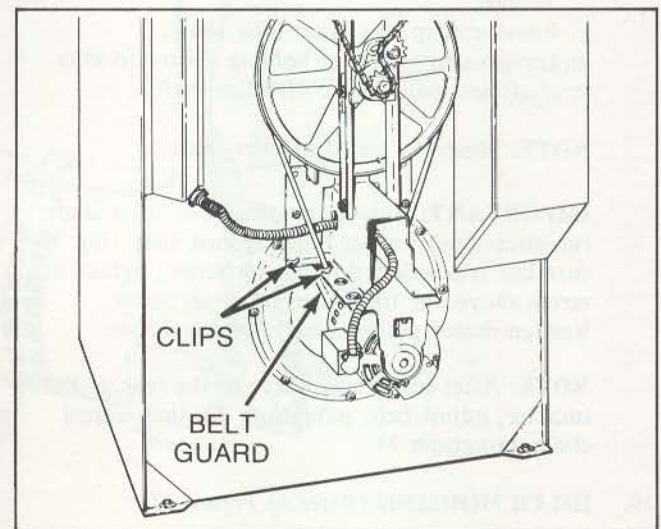

Figure 17
- guard assembly to motor bracket, *Figure 17*, and remove belt guard.